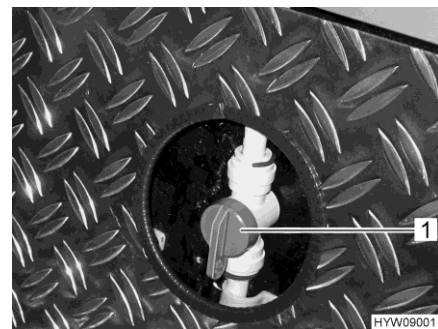

Fig. 134 Inlet valve (rear garage heating)
- Adjust the handle (Fig. 134,1) on the inlet valve for the rear garage heating so that it is parallel to the heating pipe. The rear garage heating is now working at maximum power.
- Set the handle (Fig. 134,1) on the inlet valve for the rear garage heating to the desired position. This enables the hot water distribution to the rear garage to be continuously adjusted.
- Set the handle (Fig. 134,1) on the inlet valve for the rear garage heating so that it is horizontal to the heating pipe. The rear garage heating is now switched off.